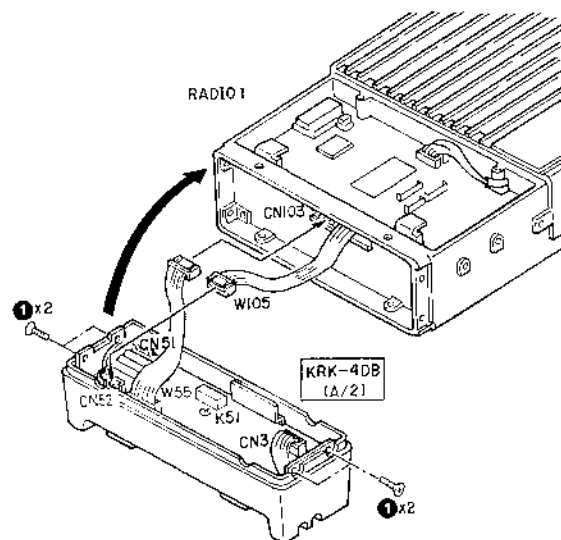

Fig. 1-3
#### 3-1. Connection of radio 1 and KRK-4DB A/2 (unit with a relay) (Fig. 1-3)
4. Install the KRK-4DB B/2 on radio 2 using the four flat-headed screws (N32-3006-46) (1). (Fig. 1-3)